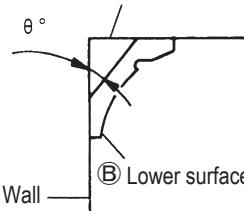

Fig. 33
Fig. 33 shows two common crown molding types having angles of (θ) 38° and 45°.
- Position the crown molding so that the upper surface (Ⓐ in Fig. 33) contacts the fence as indicated in Fig. 37.
- Position the crown molding so that the lower surface (Ⓑ in Fig. 33) contacts the fence as in Fig. 38.
- Position the crown molding so that the upper surface (Ⓐ in Fig. 33) contacts the fence as indicated Fig. 41.
- Position the crown molding so that the lower surface (Ⓑ in Fig. 33) contacts the fence as in Fig. 42.